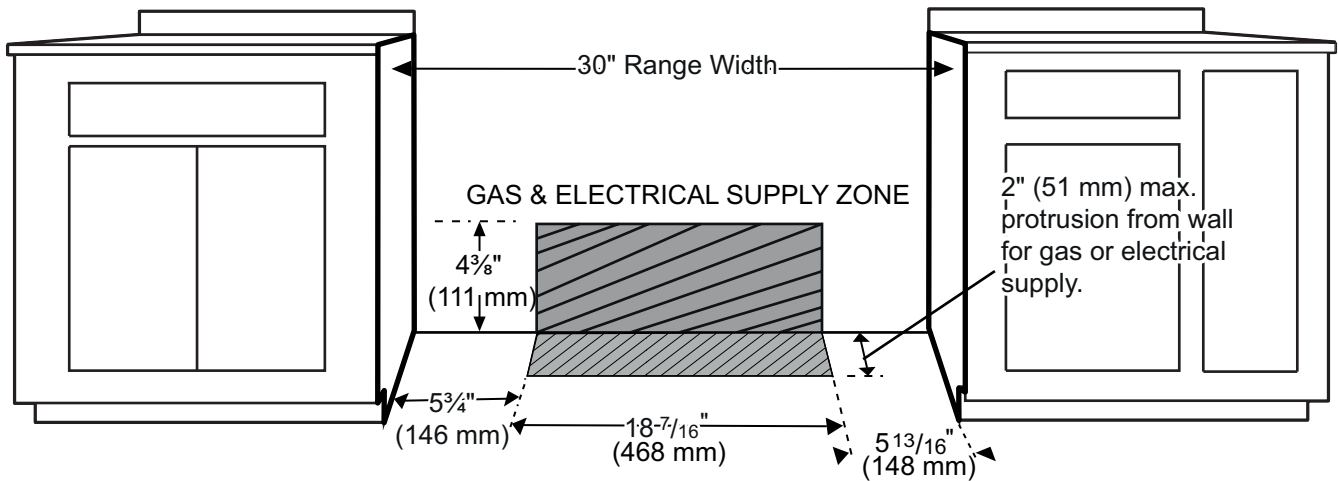

Figure 4: Gas & Electrical Supply Locations for Dual Fuel Ranges
- The gas and electrical supply should be within the zones shown in *Figure 4 on page 8*.